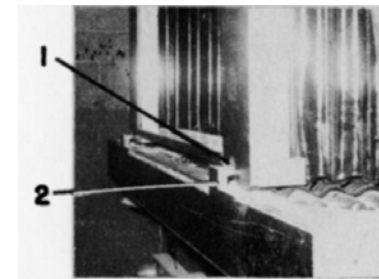

**FIG. 32
4. Engage Retaining Link (2) Fig. 32 into retaining pin (3) Fig. 31 at end of door.
1. Diaphragm Circuit Breaker Fig. 32, located in Electric Locker, in the ON position.
3. For safety reasons, when diaphragm is fully extended, place the Diaphragm Circuit Breaker Fig. 32 to OFF position.
2. Diaphragm Circuit Breaker (Fig. 32) located in Electric Locker ON position.
5. For safety reasons, when diaphragm is fully retracted place Diaphragm Circuit Breaker Fig. 32 to OFF position.